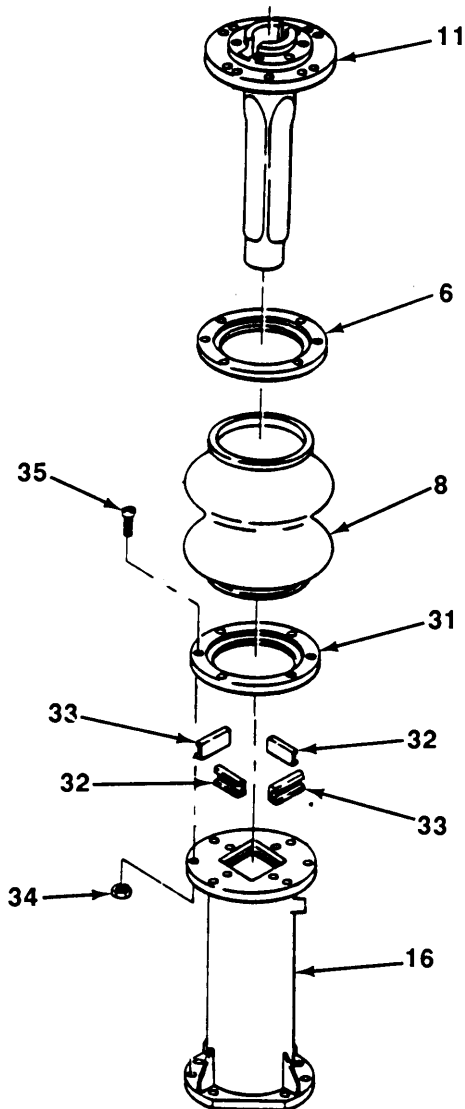

Figure 13-8. Dust Boot Replacement (VR11C).
**Refer to Figure 13-8, *Dust Boot Replacement (VR11C)*, for steps J through I.**
- j. Remove guide tube (11), upper boot ring (6), and dust boot (8) from lower unit housing (16).
- k. Remove six locknuts (34), screws (35), and lower boot ring (31) from lower unit housing (16), Discard locknuts.
- l. Remove two sleeve bushings (33) and short tube guides (32) from lower unit housing (16).
Refer to Figure 13-8, *Dust Boot Replacement (VR11C)*, for steps a through c.